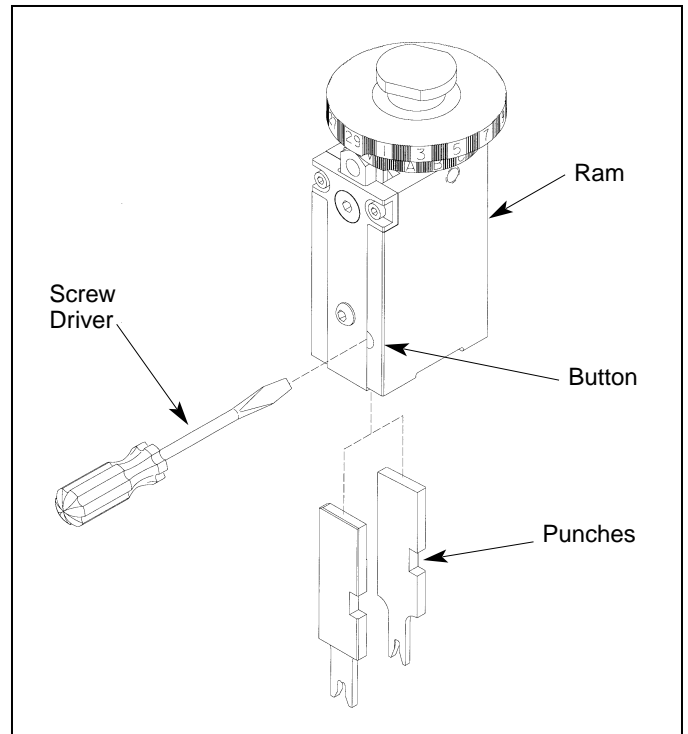

Figure 2.4.1.4 Punch Removal
- 2.4.1.4 With a small screw driver, push in the button located on the front of the ram. (Refer to Fig. 2.4.1.4 Punch Removal)